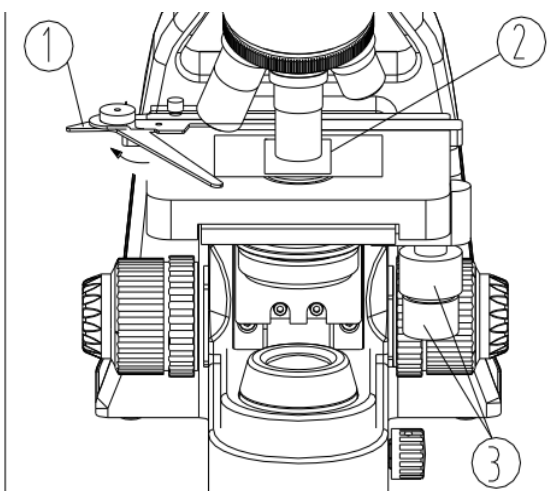

Fig.15
2. Place the cover glass of slide 2 faced upwards into the clip, loosen the wrench1 and clamp the slide (see Fig.15).